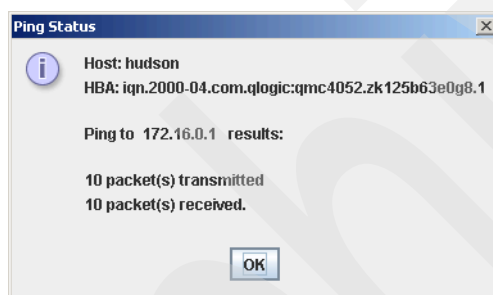

Figure 21-45 SANsurfer - Ping summary
- After all packets are sent, you will see a summary of the test, similar to Figure 21-45. Click **OK**.